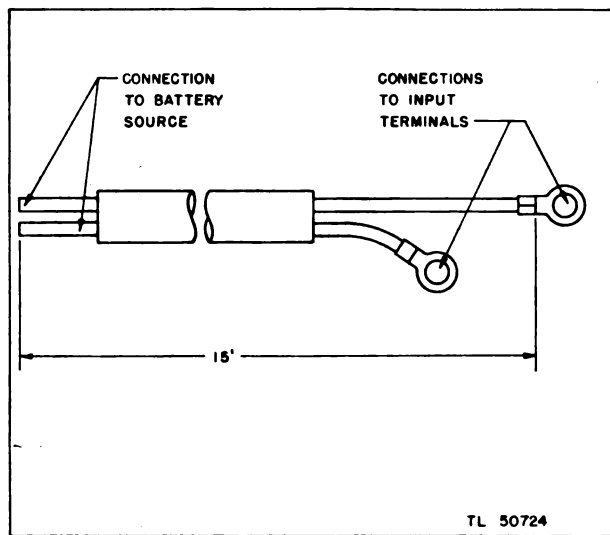

Figure 5. Cord CX-76/VVX-1 battery connector.
5. CORD CX-76/VVX-1, BATTERY CONNECTOR (fig. 5).